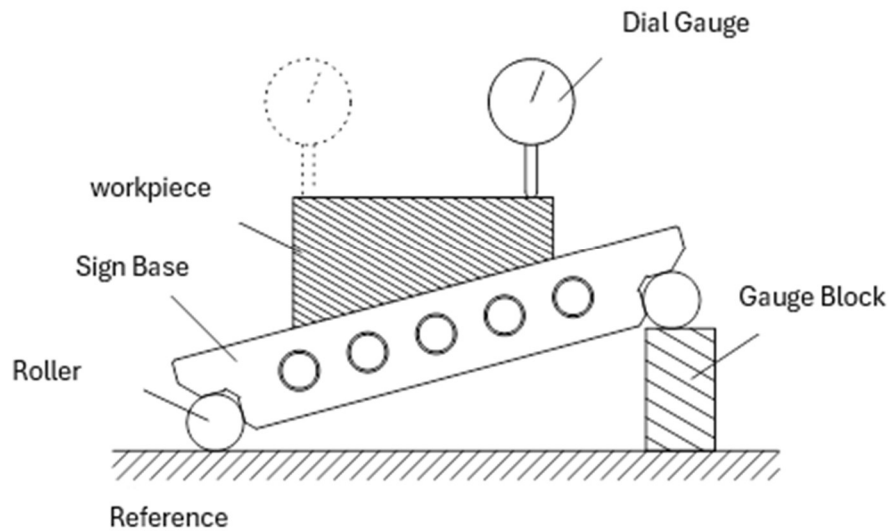

Figure 1
- ① Wipe the top surface of the sine bar, the rollers, and other parts clean, and place the sine bar on the surface plate.
- ② Attach the gauge blocks by wringing them together to the required angle dimension.
- ③ Wipe the workpiece clean and place it on the Sine Bar.
- ④ Lift the sine bar and place the gauge blocks under the rollers as shown in Figure 1.
- ③ Lightly mount the sine bar onto the mounting base using the mounting holes.